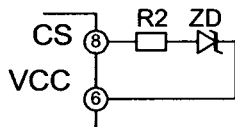

Fig.26 Overvoltage shutdown circuit(2)
To attain overvoltage protection, the CS pin voltage is forcibly raised from outside the IC until it exceeds the reference voltage (8.5V) of the internal comparator C2. When the reference voltage is exceeded, the IC enters latch mode and shuts the output down. Connect a zener diode (ZD) and resistor between the Vcc and CS pins as shown in Figure 26. When the Vcc voltage exceeds about ZD voltage + 8.5V, the IC enters the OFF latch mode and shuts the output down. If Vcc remains high even after shutdown and current is input to the CS pin, set the current to 1mA or lower. Set the zener voltage of the ZD connected to the CS pin higher than the UVLO ON threshold voltage. Startup is disabled below this voltage.